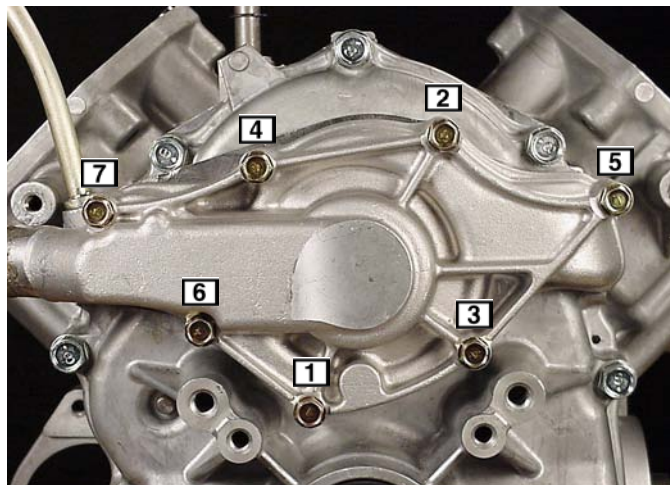

Fig. 147
5. Install water pump cover with new gasket. Torque in sequence shown to **90 in. lbs. (10.0 Nm)**, Fig. 147.